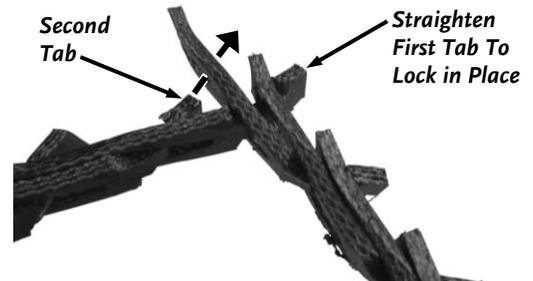

Figure 44
3. Twist the end of the Tab to lock it into position (**Figure 44**).